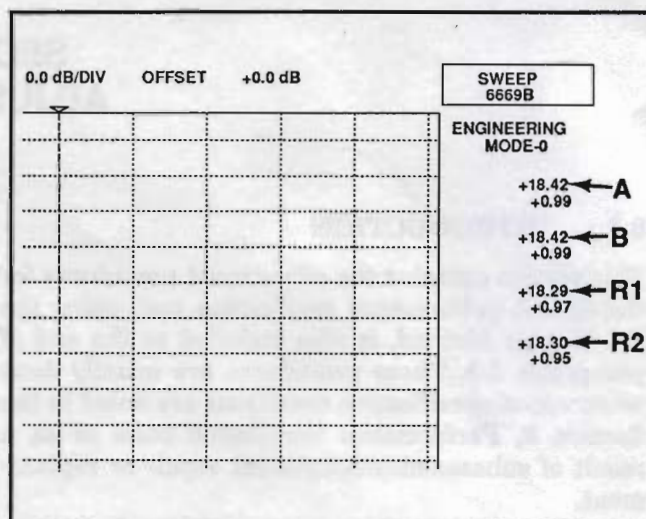

Figure 3-2. Monitor Display of Engineering Mode
14. Simultaneously press the CALIBRATION and Channel 1 OFFSET/RESOLUTION keys until ENGINEERING MODE is highlighted on the right side of the monitor screen. It may take several attempts to do this (Figure 3-2).